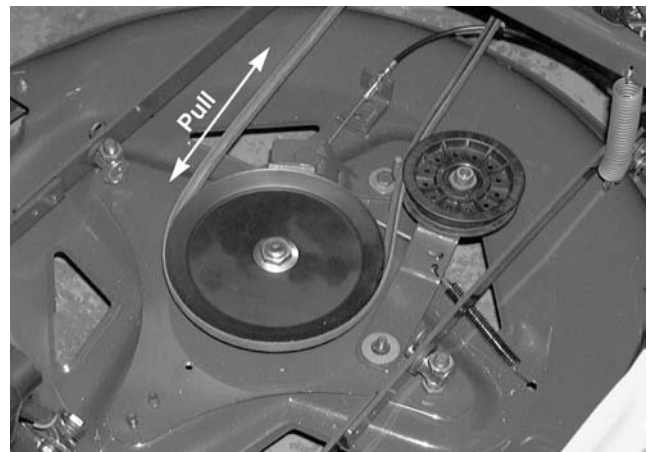

Figure 8-13.
5. Take hold of the deck engagement belt and try to pull it forward or backward. See Figure 8-13.